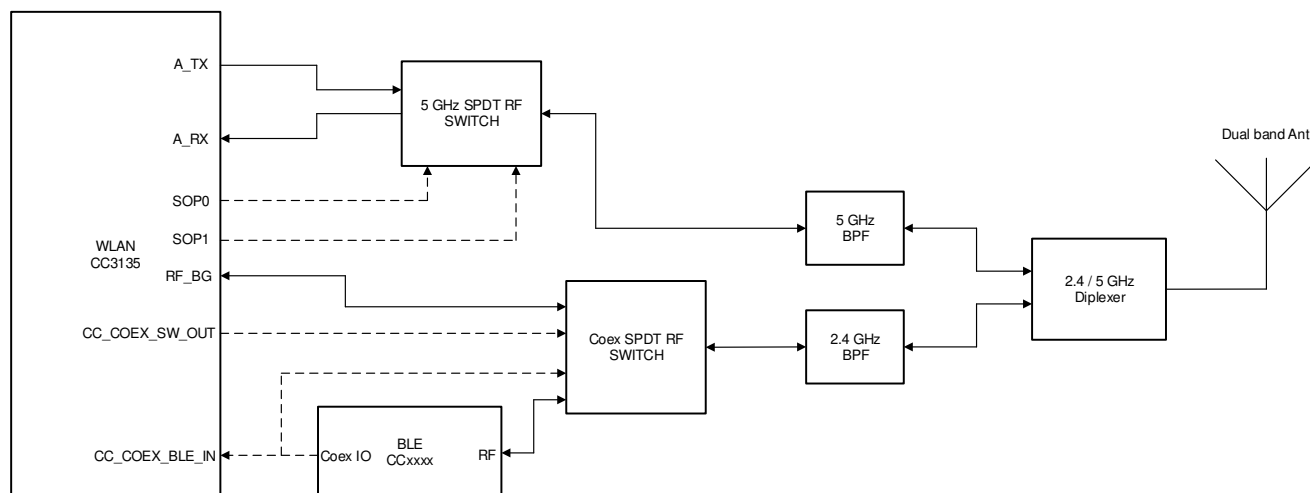

Figure 10-2. Single Antenna Coexistence Solution with 5 GHz Wi-Fi®
- 5 GHz Wi-Fi band (see Figure 10-2)
Figure 10-2 shows the single antenna implementation of a complete Bluetooth® low energy and WLAN coexistence network with the WLAN operating on either a 2.4- or a 5 GHz band. The SOP lines control the 5 GHz switch. The Coex switch is controlled by a GPIO signal from the BLE device and a GPIO signal from the CC3135 device.